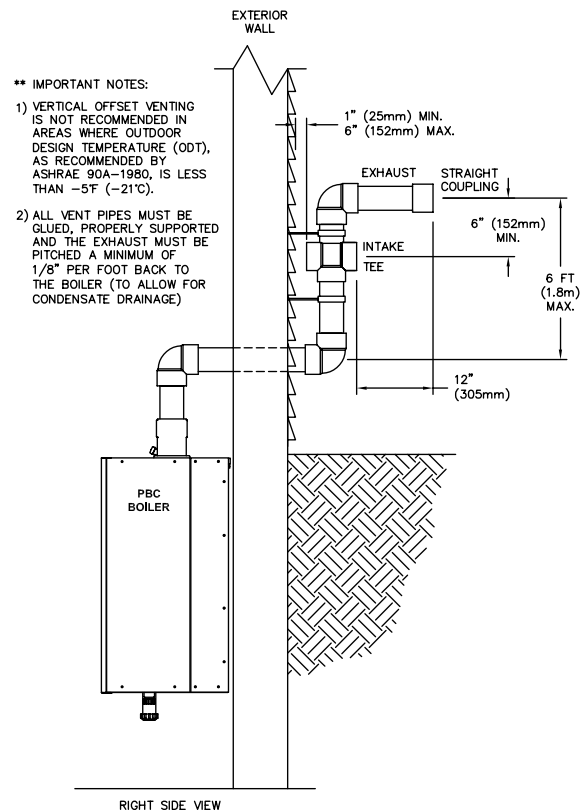

Figure 3.5: Offset Exhaust and Air Inlet Terminations
- c. Figure 3.5 is only approved for locations in which the outdoor temperature is above -5°F (-21°C) in accordance with ASHRAE 90A-1980 recommendations.